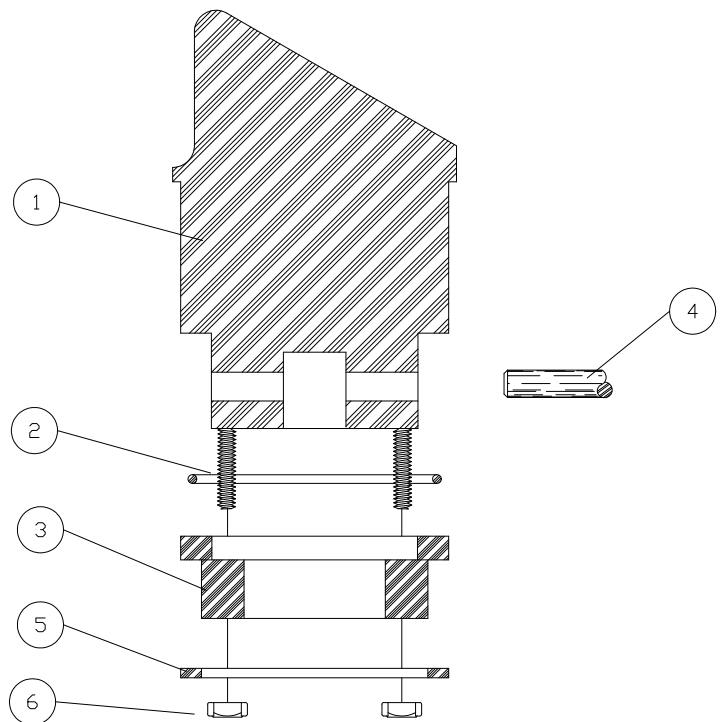

FIGURE 4
TO DISMANTLE PISTON IN FIGURE 4, REMOVE THE SIX HEX NUTS (6), SLIP RING (5) DOWN AND OFF, THEN WITH SLIGHT PRESSURE, PUSH PISTON RING (3) OFF PISTON, REMOVE WRIST PIN (4) AND RUBBER "O" RING (2). WHEN REASSEMBLING THE PISTON, A VERY IMPORTANT STEP IS TO MAKE SURE THE SIX NUTS (6) ARE NOT OVERLY TIGHTENED, MERELY SNUG. AS THE RING WEARS OVER A PERIOD OF TIME, CONTINUE TO SNUG UP THE SIX NUTS. THIS PROCEDURE WILL NOT ONLY PROVIDE LONG LIFE TO THE PISTON RING BUT WILL MAINTAIN FULL VACUUM.